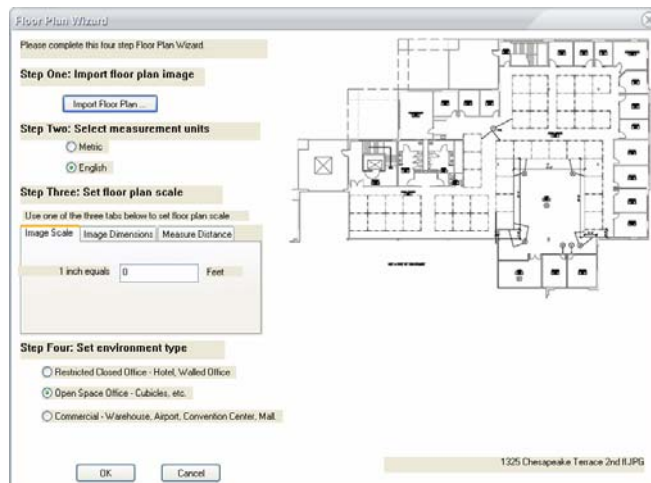

Figure 10-6: Imported Floor Plan
- 3) Browse to the desired floor plan image and click Open. The Floor Plan Wizard refreshes. See Figure 10-6.